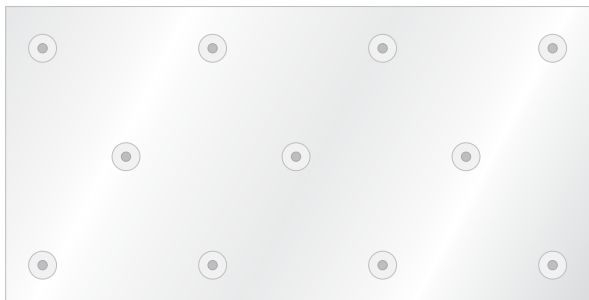
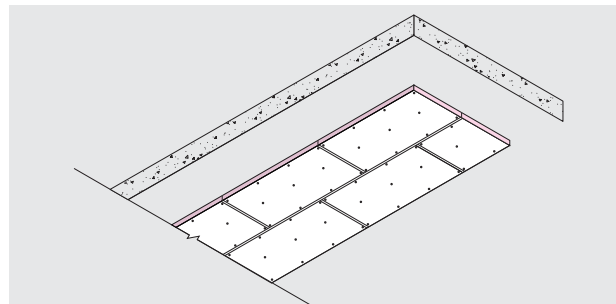
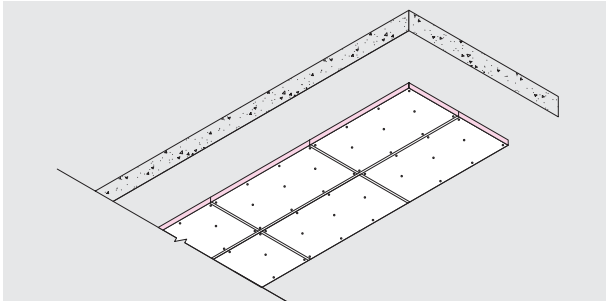

Figure 2. Fastener pattern (11 per board)
Figure 4. Board joints staggered.
Figure 5. Board joints squared.
2. Board joints can be either staggered (see Figure 4) or squared (see Figure 5, overleaf) and taped with 96 mm wide white Kingspan Insulation Tape. Four fasteners along each length - no less than 50 mm - no more than 150 mm from edge of board, three fasteners along the middle (offset from edge positions as per diagram Figure 2).